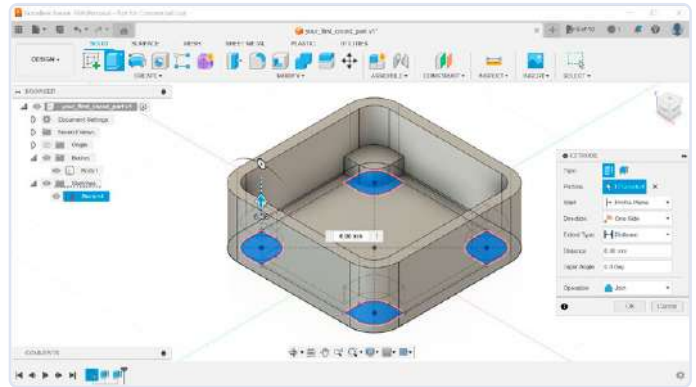

Figure 12: Extruding the four supports.
12) At this point, we can again finish editing the sketch by clicking the *Finish Sketch* button, and we can extrude the supports. With the body visible, it might be hard to select the required faces from the sketch. An easier solution is to hide *Body1* temporarily in the browser, select the *Extrude* tool (Figure 12), and select the shapes from the sketch. However, before extruding, you need to show *Body1* for the supports to be connected with this body. The distance should be 6 mm, and, in the *Extrude* dialog, ensure that the *Operation* is set to *Join*.